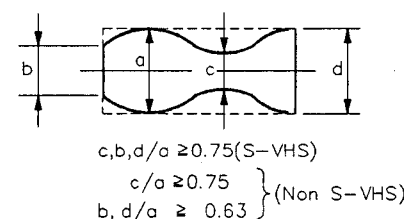

Fig. 5-4-6 Envelope waveform adjustment
3. Make sure the video envelope waveform (in its maximum output) meets the specification shown in Fig. 5-4-6.
1. Make recordings and play back on E-180 and E-240 tapes, and make sure the playback output envelope meets the specification shown in Fig. 5-4-6.